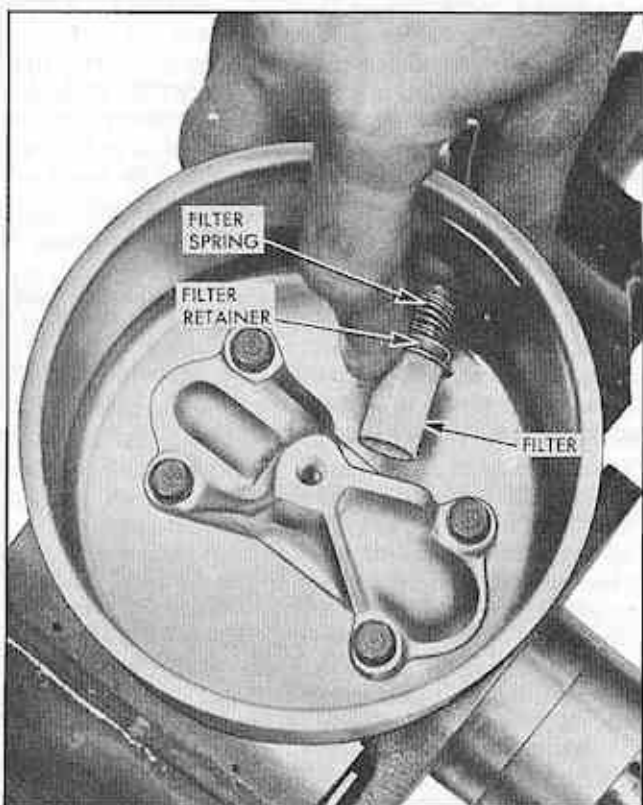

Fig. 93 Removing Filter Screen
3. Remove filter screen, filter retainer and filter spring by pushing the retainer back against the spring as shown in Fig. 93.